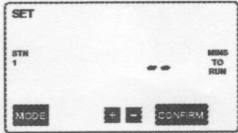

Figure 8
- Push CONFIRM button two more times and NEXT button once to move past the time/day setting and the watering days. STATION (STN) 1 will show to indicate which station is being set. MINS TO RUN will show with two digits or "--" flashing. (See Figure 8)